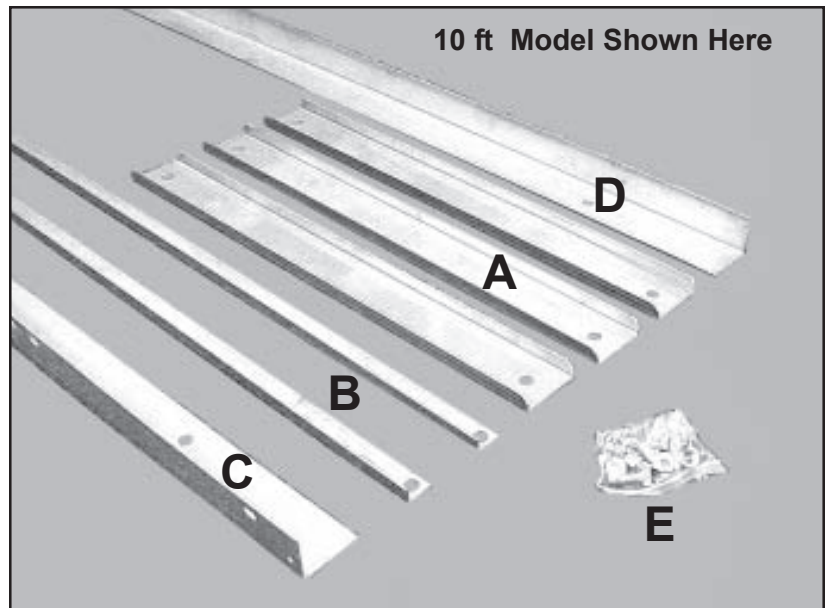
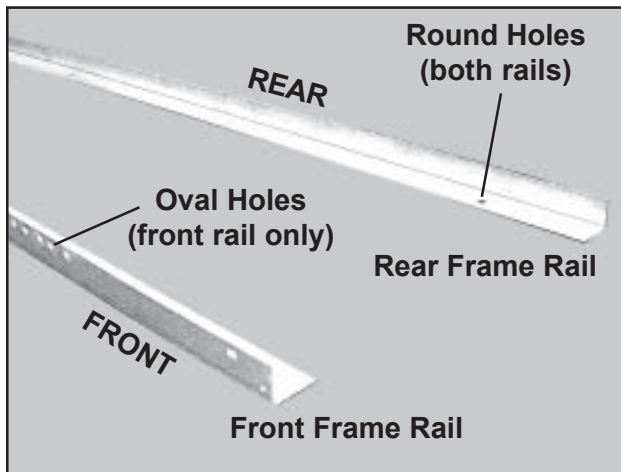
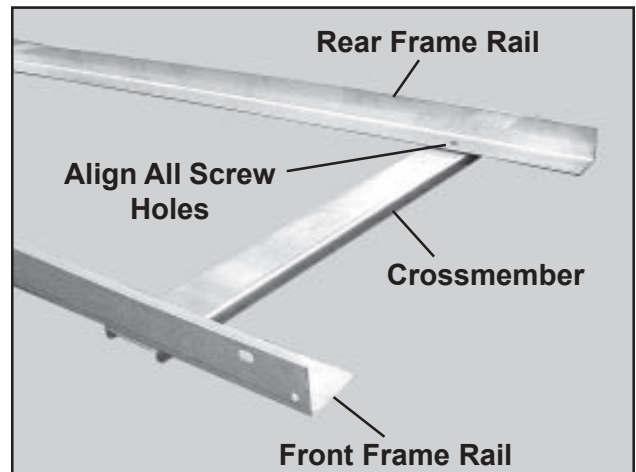

Figure 1. Parts Included With Stationary/Mobile Base
Figure 2. Front and Rear Frame Rails Laid Out for Assembly.
Figure 3. Crossmember Placed Under the Frame Rails
The following parts are included in the shipment. Refer to Table 3 for part numbers and quantities of all parts for each size base. Figure 1 shows a 10 ft base as a typical example.
Table 3. Parts and Quantities for Stationary and Mobile Bases (refer to Figure 1)
1. Take the L-shaped front and rear frame rails (**C** and **D** in Figure 1). Both rails have two or three *round* screw holes in the *bottom* side. The front rail also has a series of *oval* holes in the *front* side. Lay the rails on the floor, parallel to each other, and about 2 ft apart (Figure 2). The sides with the round holes go on the bottom. The vertical sides go toward the outside.
2. Take the U-shaped crossmembers (**A** in Figure 1). The smaller bases have two crossmembers; the larger bases have three (Table 3). Place the crossmembers under the front and rear frame rails with the screw holes aligned (Figure 3). The flanges on the crossmembers should point down.
1. Take the L-shaped front and rear frame rails (**C** and **D** in Figure 1). Both rails have two or three *round* screw holes in the *bottom* side. The front rail also has a series of *oval* holes in the *front* side. Lay the rails on the floor, parallel to each other, and about 2 ft apart (Figure 2). The sides with the two or three round holes go on the bottom. The vertical sides go toward the outside.